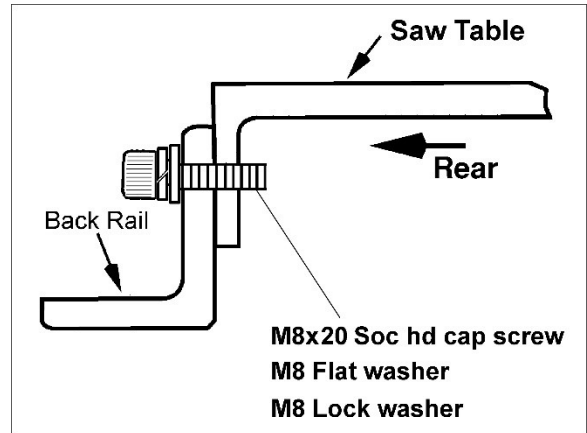

Figure 7-8
4. Insert socket head cap screws with washers through back rail and saw table, and secure with washers and hex nuts. See Figure 7-8. *Finger-tighten only at this time.*